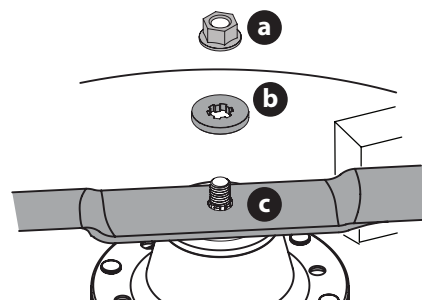

Figure 63
2. Remove the flange lock nut (a) and flat washer (b) from the spindle shaft and remove the blade (c) (Figure 63).